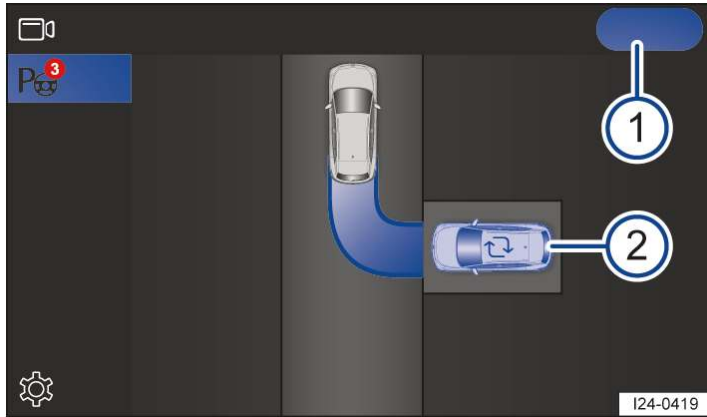

Fig. 1 Infotainment system: parking manoeuvre (illustration).
2. Tap **Start** on the Infotainment system → Fig. 1 (1).